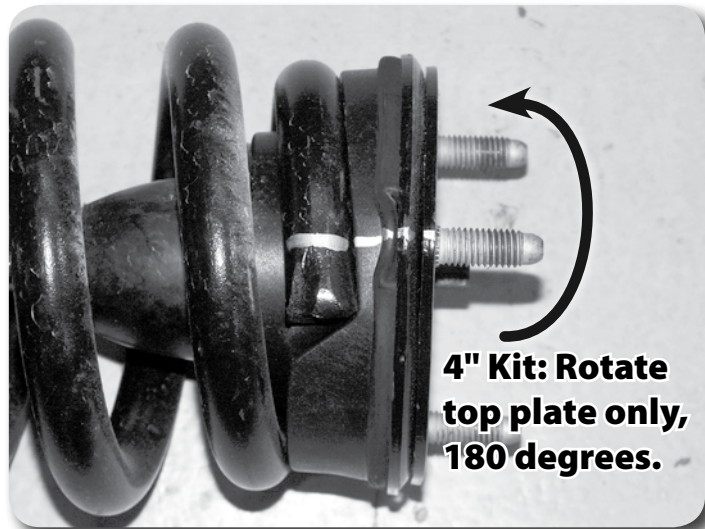

Figure 17
45. 4 inch kits only: The upper strut mounting plate must be rotated 180 degrees. Make an indexing mark on the coil at the top winding by the stud that faced 'out' on the vehicle. Place the coil in a strut compressor and rotate the top 180 degrees. The stud will still face out on the vehicle when reinstalled. This step rotates the buldge in the coil to give enough clearance. This step is not necessary for the 6 inch kits. Figure 17